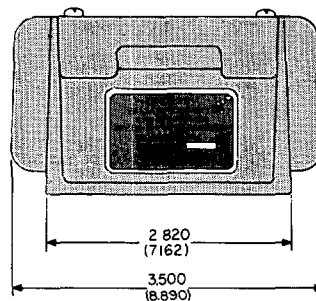

FIGURE 2-4 KA 39 VOLTAGE CONVERTER OUTLINE AND MOUNTING DRAWING
- (b) Refer to Figure 2-4 for the KA 39 mounting dimensions.